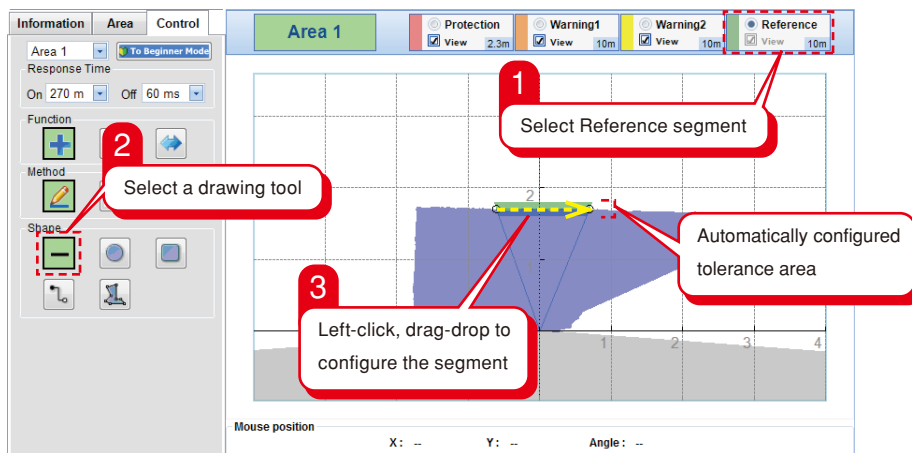

Figure 7-46. Reference segment configuration
- h) The tolerance will be configured as shown in figure 7-46. Added tolerance is displayed in green colour.